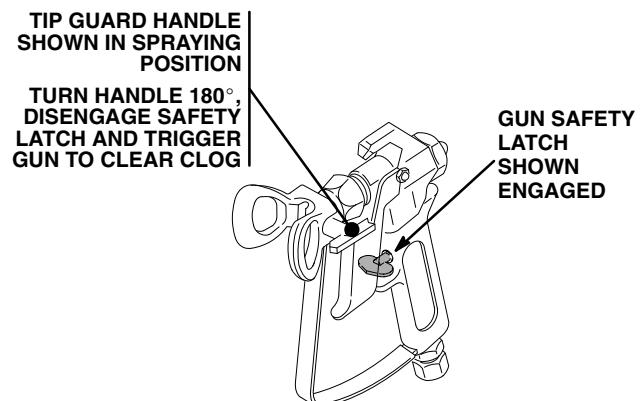

Fig 13-1
2. If the spray tip does clog, release the gun trigger, engage the gun safety latch, and rotate the RAC IV handle 180°. See Fig 13-1.